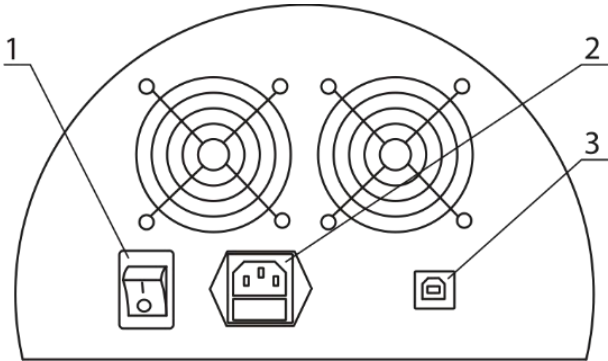

Figure 1. Rear panel of the unit
- Connect the power cable to the socket on the rear side of the unit (fig. 1/2). and position the unit so that there is easy access to the power switch and mains outlet.
- Connect the USB data cable to the port on the rear side of the unit (fig. 1/3) and to the personal computer.
6.3. Turn on the unit by pressing the power switch on the rear panel (fig. 1/1).
6.7. After finishing the operation, switch off the unit with the power switch (fig. 1/1).